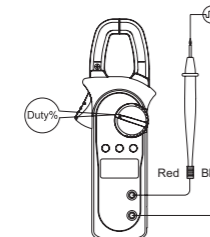

Figure 8
**F. Measuring Duty Cycle**(See Figure 8)